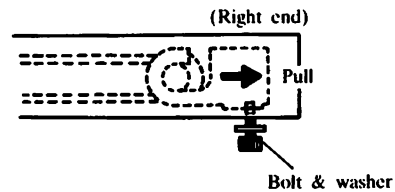

Fig. 83
- (4) Place the Driving pulley and the Holder which are inside of the rail at the right end and fix with the bolt (5×8) with the washer. (Refer to Fig. 83)